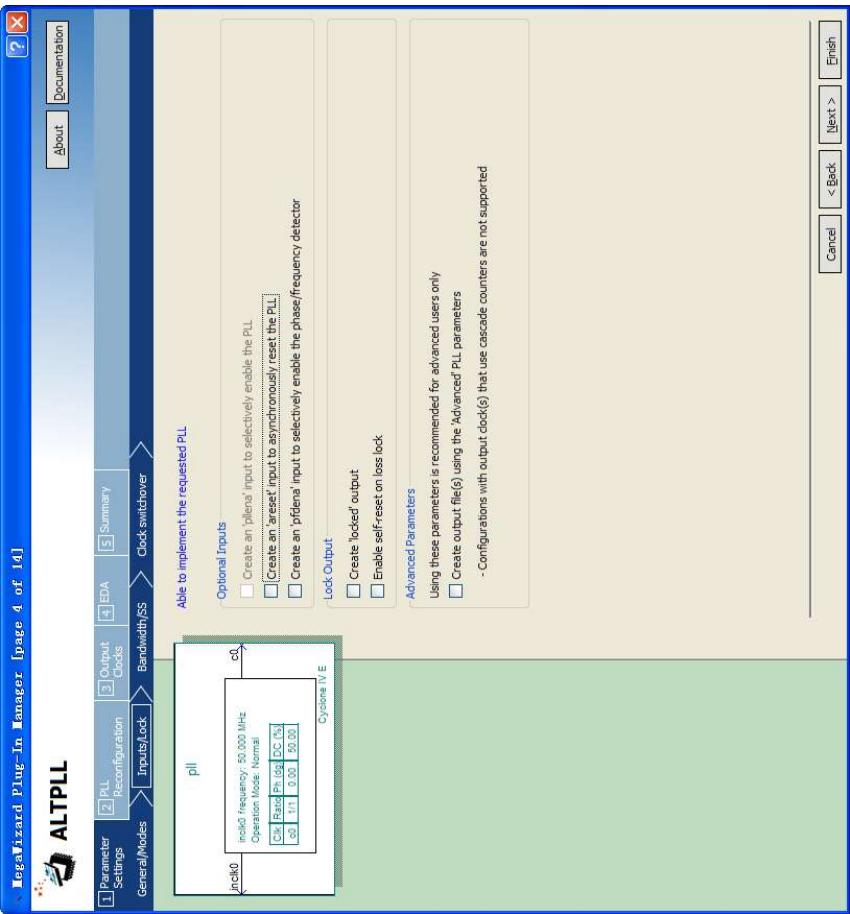

Figure 6-22 MegaWizard Plug-in Manager [page 4 of 14] Selections
- Unselect all options on MegaWizard page 4. As you turn them off, pins disappear from the PLL block's graphical preview. See Figure 6-22 for an example.